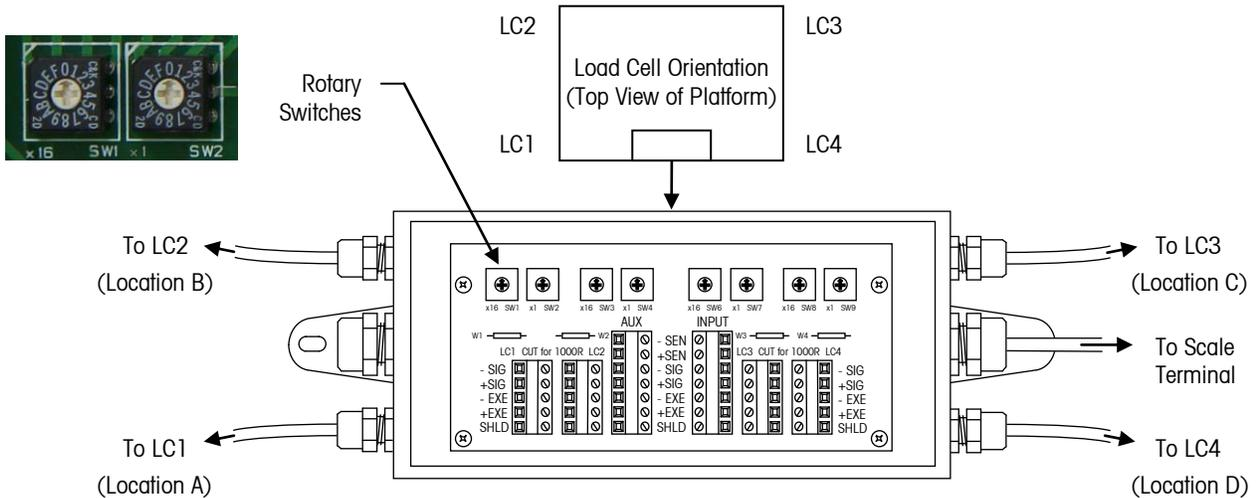

**Figure 5-1: Test Weight Locations**
3. Figure 5-1 shows the locations (A, B, C, and D) for positioning test weights equal to 1/4 of the scale's rated capacity. Place the test weight at location A and record the weight reading. Then move the test weight to location B and record the weight reading. Continue until you have taken a weight reading at each of the four locations.